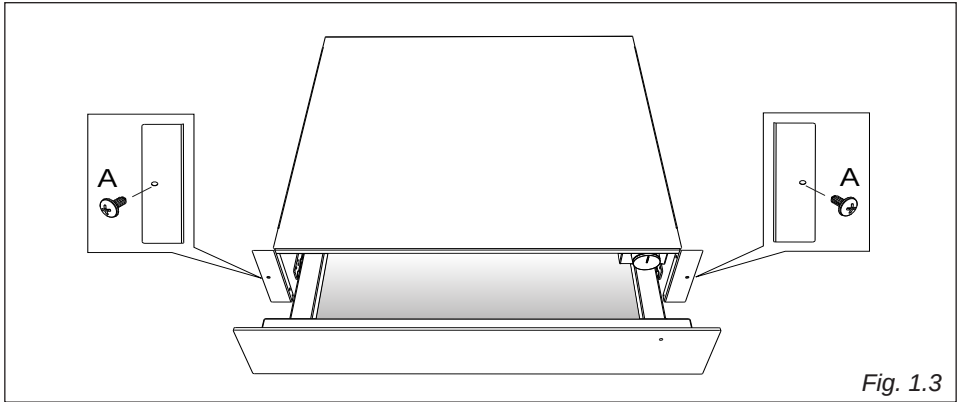

Fig. 1.3
- Open the drawer and fasten it to the sides of the unit by screwing the two screws (not supplied) "A" (fig. 1.3).